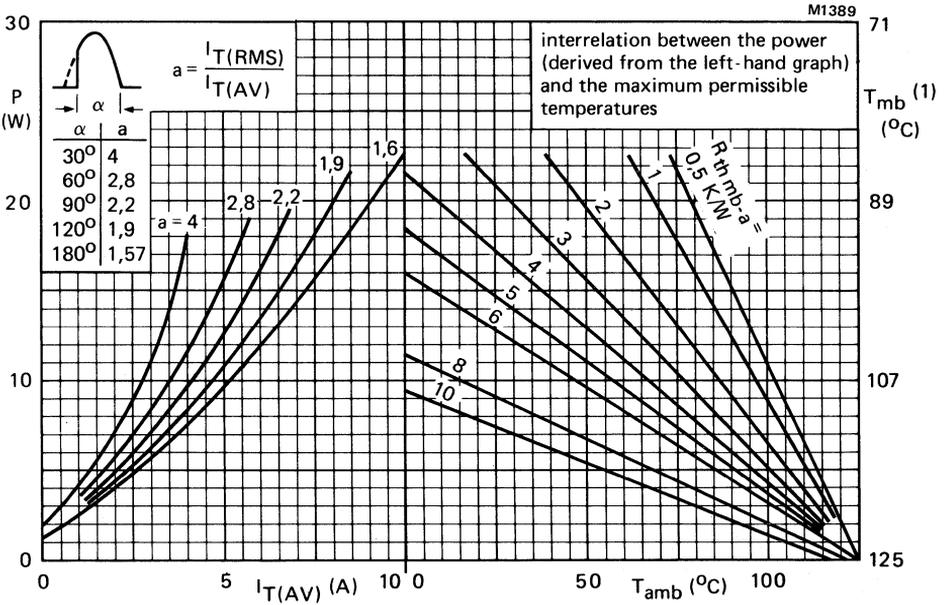

Fig. 3 (1) T_{mb} -scale is for comparison purposes only and is correct only for $R_{thmb-a} \leq 6 \text{ K/W}$
*To ensure thermal stability: $R_{th j-a} < 4$ K/W (d.c. blocking) or < 8 K/W (a.c.). For smaller heat-sinks $T_{j max}$ should be derated. For a.c. see Fig.3.